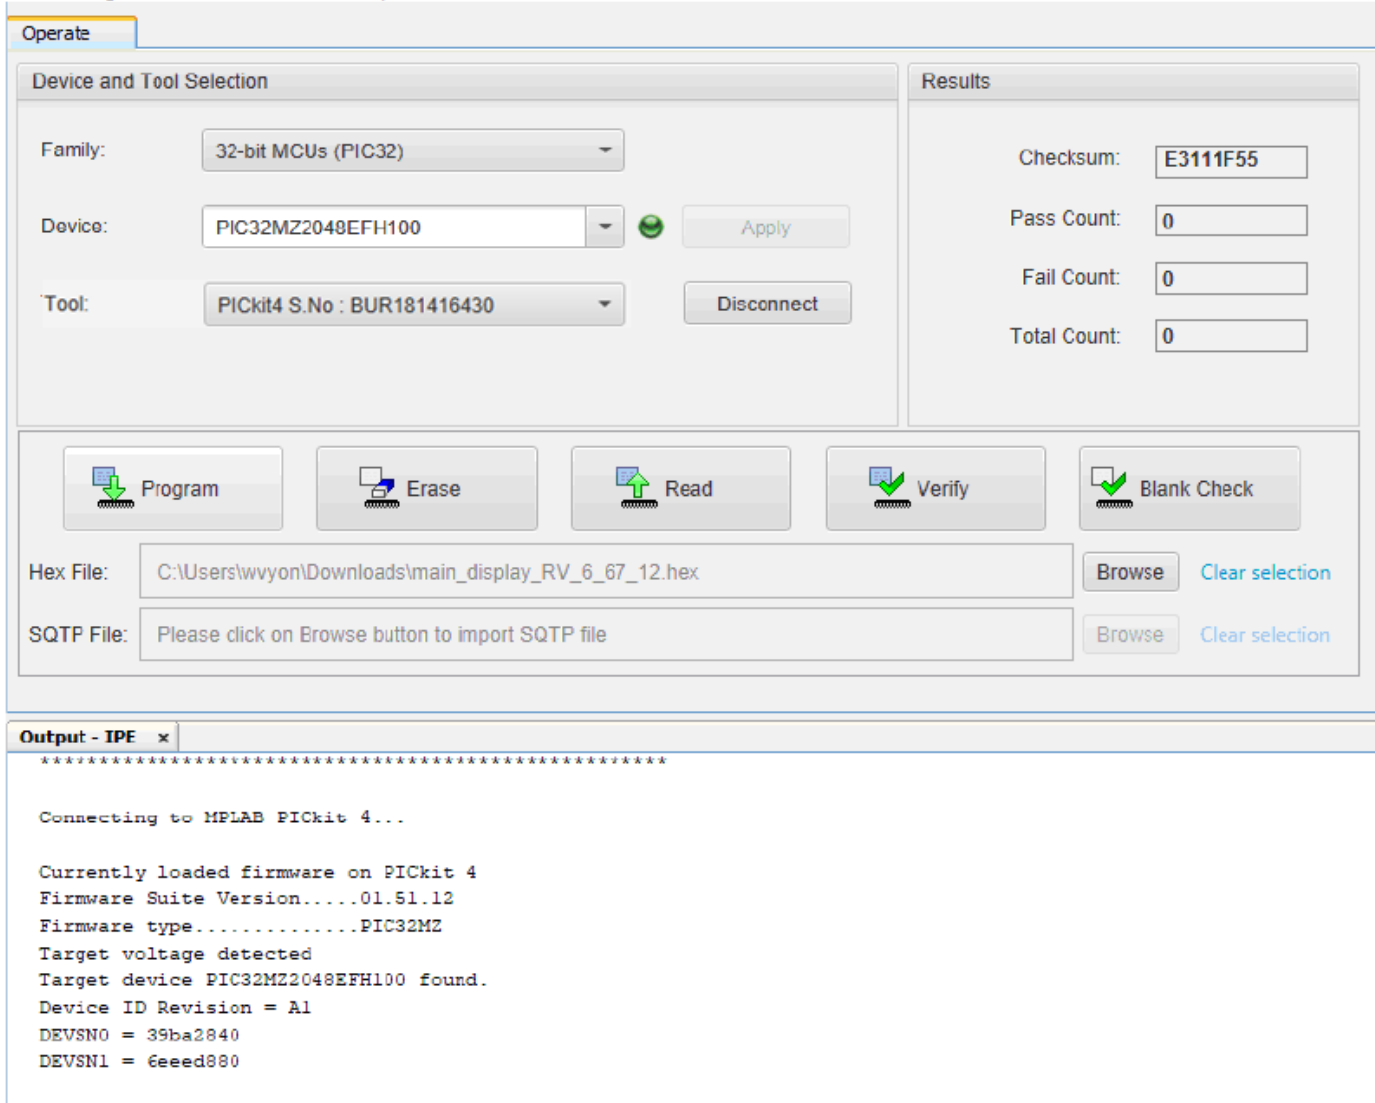

FIGURE 5. IPE SHOWING DISPLAY UPDATE IN PROGRESS
5. Click **Apply**, then click **Connect**. The firmware for the processors will be downloaded to the PICKit Programmer and then the Programmer will connect to the chip on the board. The output window shows the status (see Figure 5). Note that DSVSN information is unique to each chip.